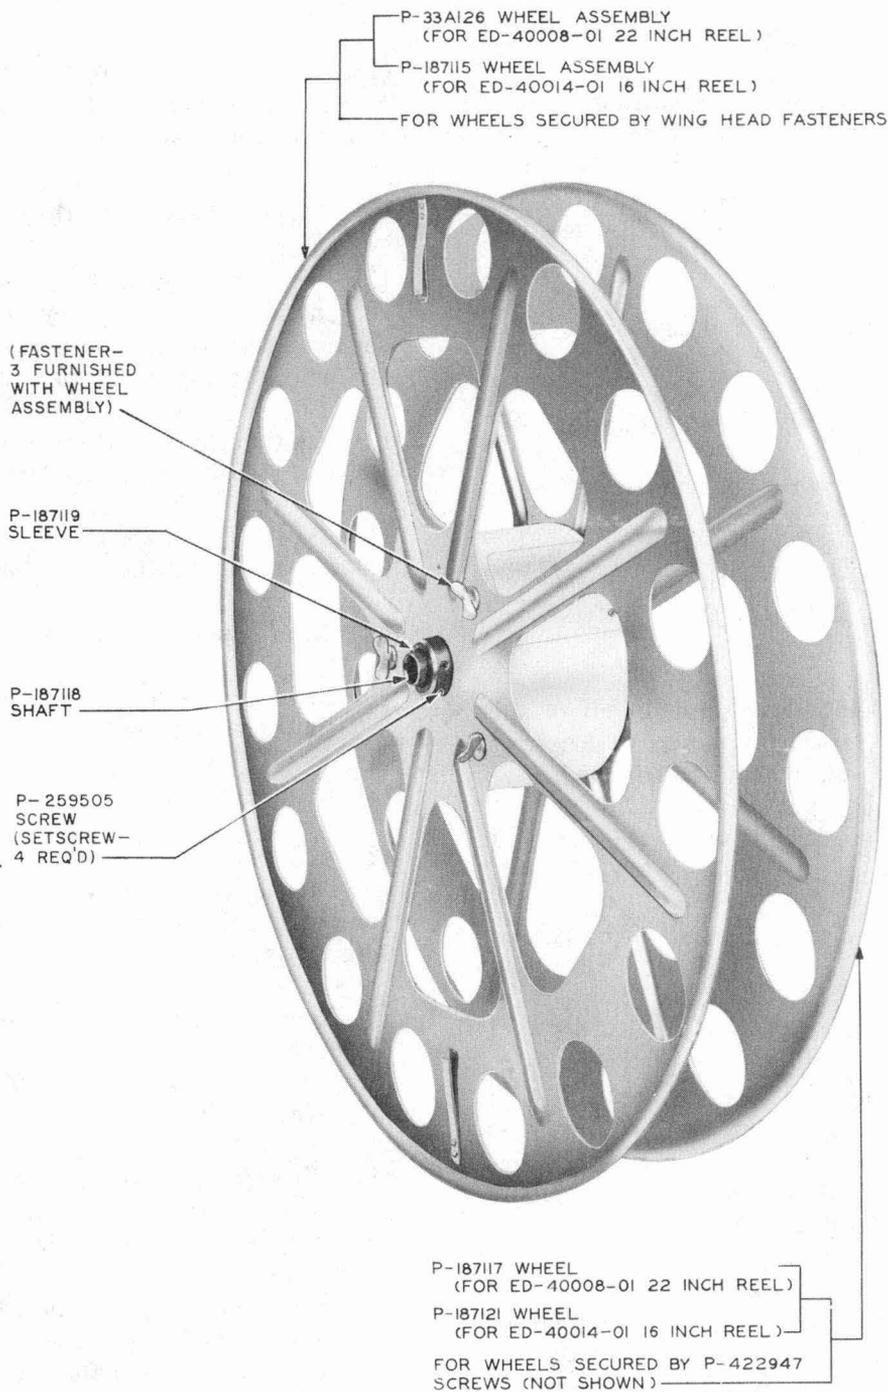

Fig. 4—ED-40008-01 and ED-40014-01 (Mfr Disc.) (22-Inch Reel Illustrated)
3. Fig. 1 and 2 changed to Fig. 4 and 5.
- (1) Remove the wheel assembly by unlocking the three fasteners (Fig. 4).
**4.10 Sleeve (Fig. 4)**
4.11 *Shaft* (Fig. 4)
#### 4.12 Wheel Assembly (Fig. 4)
**4.13 Wheel (Fig. 4)**